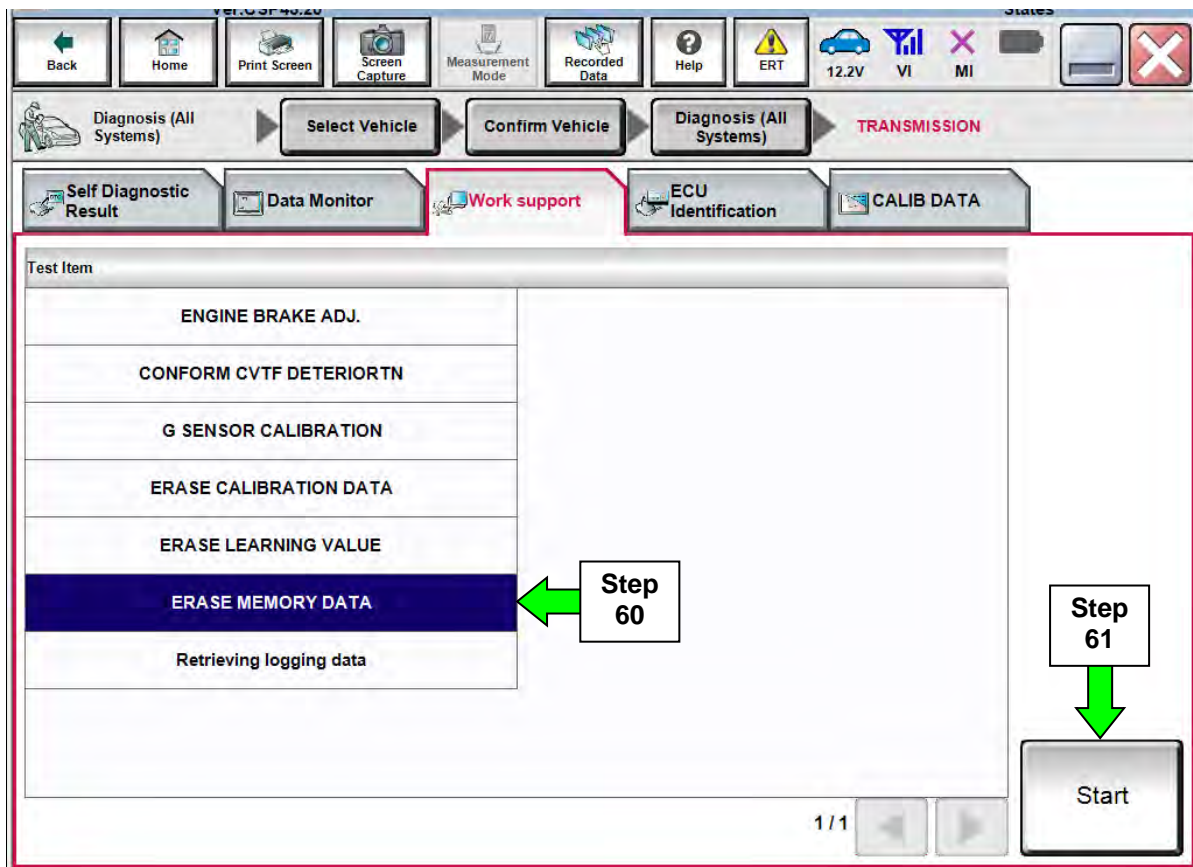

Figure 33
59. Navigate C-III plus to the screen shown in Figure 33.